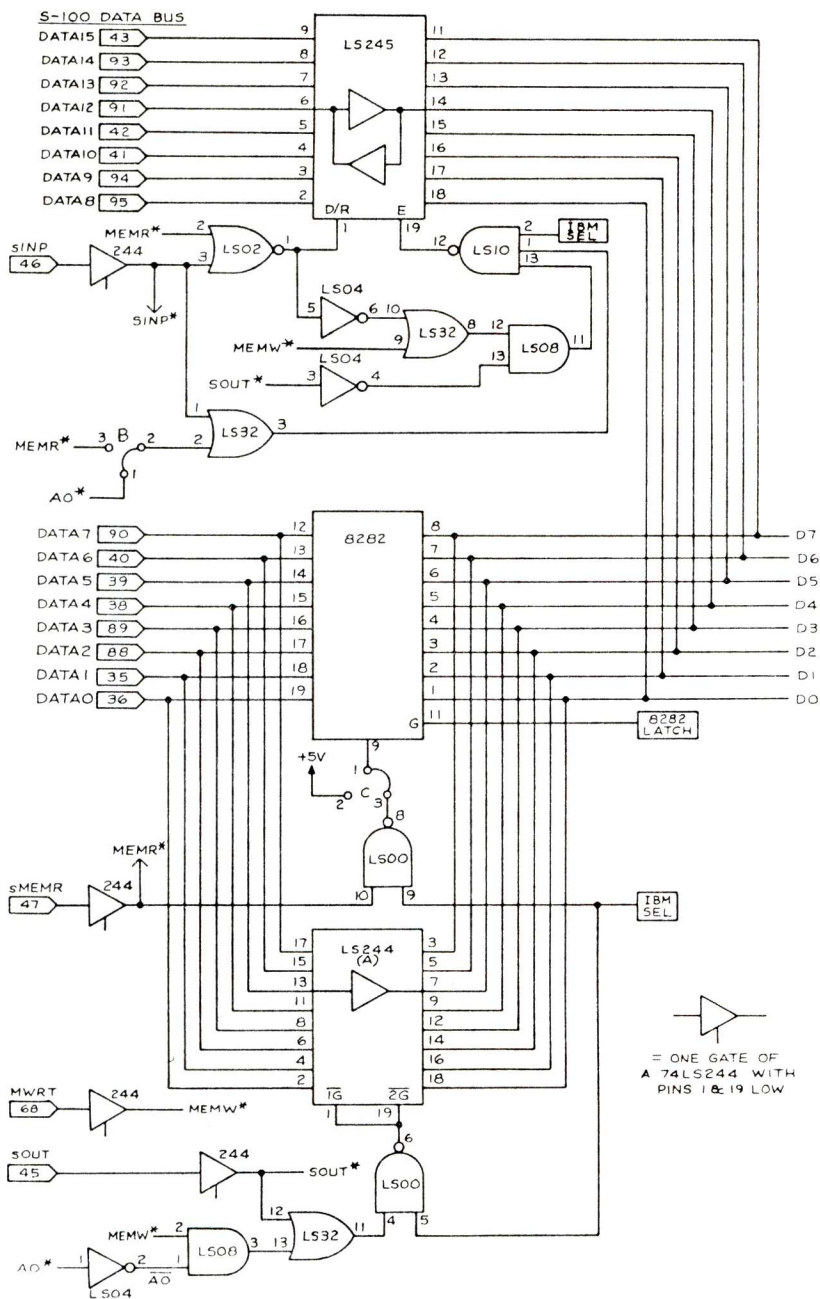

FIGURE 3
Both I/O read and write are assumed to be carried out as 8 bit transfers by the S-100 CPU. sINP generated inputs will arrive from the IBM bus (if the correct port is mapped, see below) to the "data in" S-100 bus lines via the 74LS245 shown in figure 3. A careful analysis of the diagram will show that pin 19 of this chip (the output enable pin), will always go low when sINP goes high and IBM SEL is high. sOUT generated outputs will travel to the IBM bus via the 74LS244(A) shown in figure 3. Pins 1 and 19 of this chip go low when sOUT and IBM SEL are high.
If you are using a CPU that has an 8088 (i.e. no 16 bit requests) you can simplify figure 3 by changing jumper b1-2 to position b2-3 and c1-3 to c1-2. This effectively removes the 8282 latch forcing all "data out" to go through the 74LS244(A) and all "data in" to arrive via the 74LS245.